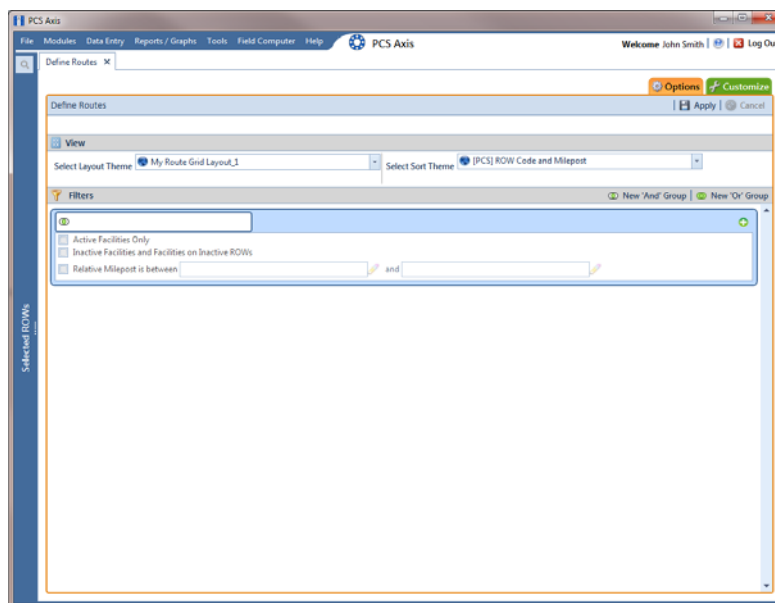

Figure 7-43. Options
- a Click the **Options** tab  to open the options page (Figure 7-43, page 328).